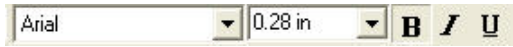

Figure 9-87. Text Toolbar
- On the Text Toolbar, select the correct text font, size, and style (Figure 9-87).